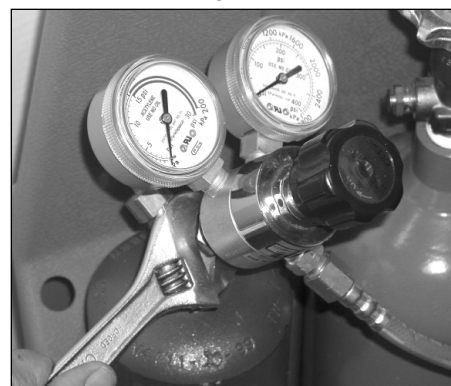

Figure 2 - Regulator Connection
4. Carefully inspect the regulators for damaged threads, dirt, dust, grease, oil or other flammable substances. Remove any contaminants with a clean cloth. All acetylene hose connections use left-handed threads while the oxygen connections are right handed. Attach the regulators to the cylinder valves and tighten securely with a wrench (right hand threads) (see Figure 2).